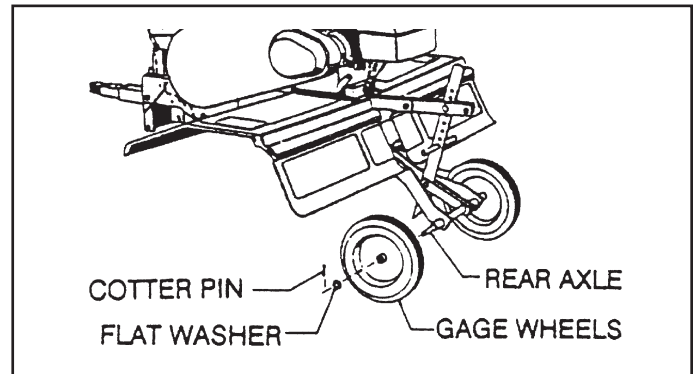

FIG. 2
- Assemble Gauge Wheels onto the Rear Axle with the extended end of Hub facing inward. Secure with the Flat Washers and Cotter Pins which you removed from the axle during unpacking. (See fig. 2.)